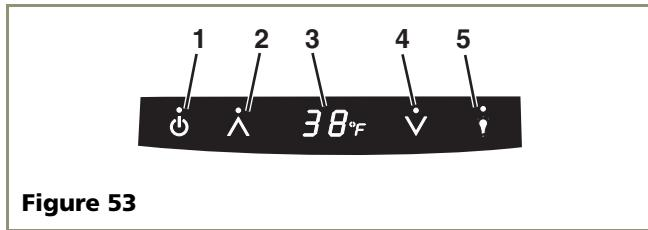

Figure 53
3. Open the door and press the POWER icon (see **Figure 53, 1** (**Page 23**) on the display panel until OFF is displayed.
3. Open the door and press the POWER icon (see **Figure 53, 1** (**Page 23**) on the display until OFF is displayed.
Once installation and leveling is complete, the unit is ready for initial start-up and operation. The display panel is located inside the unit, on the top of the refrigerator side (see **Figure 53, 1**).
3. Press the POWER icon (see **Figure 53, 1**) and hold for approximately five seconds until the °F symbol flashes and release. The water fill valve will energize and fill the water reservoir. The water fill valve shuts off after approximately 180 seconds (3 minutes). The compressor begins to operate.
The CLRCO2175 display (see **Figure 53, 3**) will show the set-point temperature (38°F) when the unit is on and will show OFF when the unit is off. The CLR2160 display (see **Figure 53, 3**) will show ICE when the unit is on and will show OFF when the unit is off.